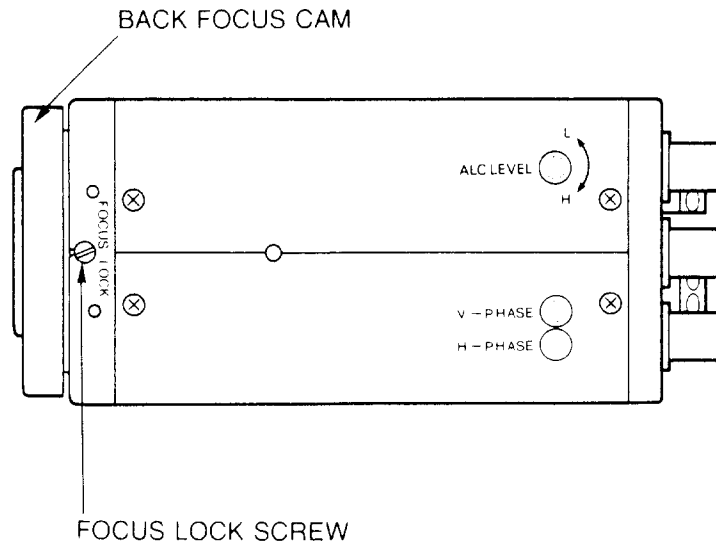

Figure 9
3. Loosen the focus lock screw (Figure 9).
3. Set the lens to its maximum wide angle position and adjust the back focus cam (Figure 9) on the camera for the sharpest possible image.